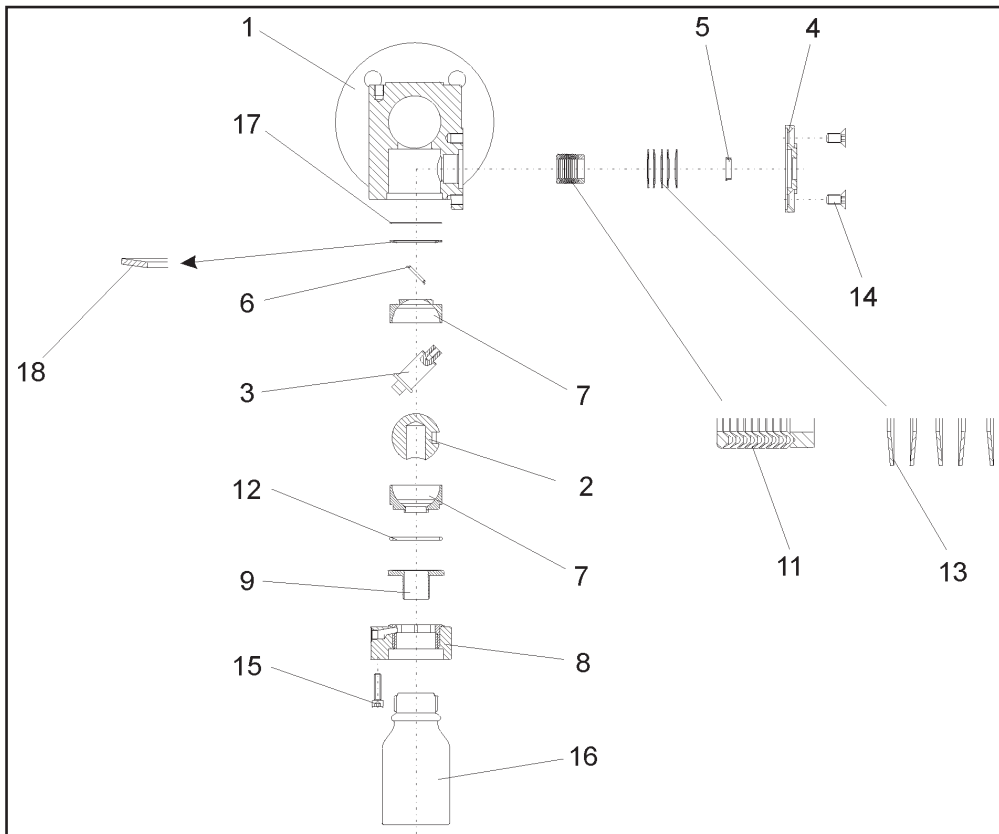

Fig 3 - Exploded drawing of a sampling valve series 27a
The sealing ring (17) and the spring washer (18) are inserted into the body. For the exact positioning of the spring washer, refer to the explosion drawing (Bild 3). The bearing bush (6) is pressed into its intended position, for the subsequent
The PTFE-V-ring packing (11) is inserted together in the body bore in the following order; PTFE-bottom ring, PTFE-V-rings, and steal-V-ring. Following this, insert the spring washer set (13). For exact positioning and locating of the V-ring packing and spring washers, refer to the explosion drawing (Fig. 3)